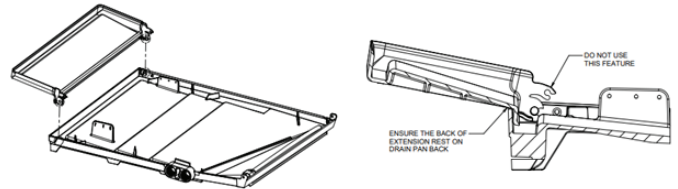

Figure 4A
1. A drain pan extension is shipped with coil in the accessory kit box (Figure 4A). This extension is to be used only for horizontal left application used only for higher than normal humid application. **During horizontal right application, this Drain Pan Extension is not required** (There are accessories recommended for horizontal right application, see page 4). This extension will have to be locked in position for proper application.